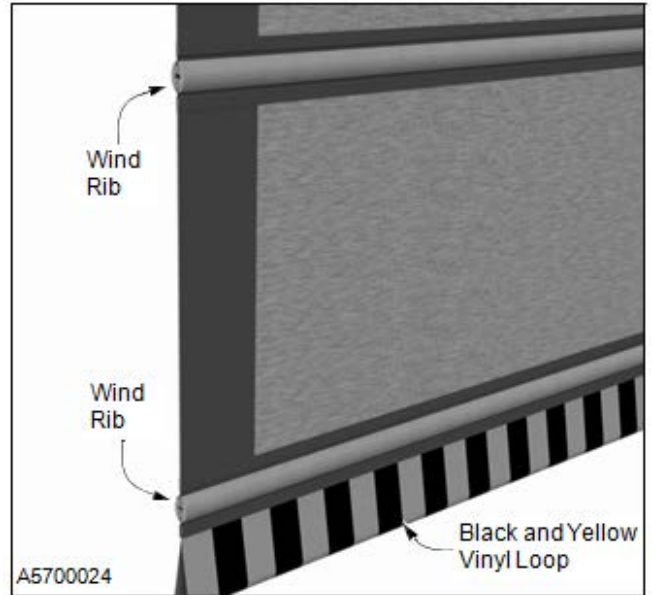

Figure 63
5. Make sure the wind ribs are in place and tightly secured. (See Figure 63)